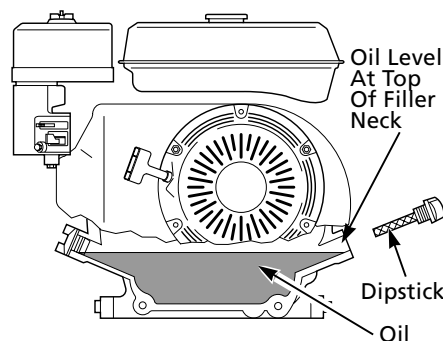

Figure 19 – Checking Oil Level (Model 3W735B Shown)
1. Remove dipstick (See Figure 19). Wipe dipstick clean.
3. If level is low, fill to top of oil filler neck (See Figure 19). Only use oil recommended in engine owner's manual. For Model 3LW64A only, fill to top dot on dipstick.